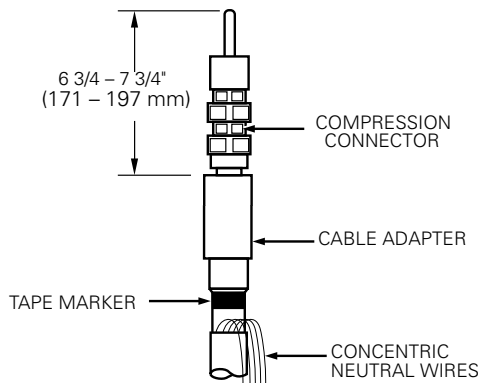

Figure 11. Line illustration for dimensional check
- Length should be between 6 3/4" and 7 3/4" (171-197 mm). (Refer to Figure 11.)